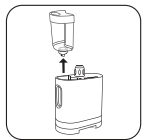

fig.4
1. Place the base on the floor and remove the water tank. (fig.4)